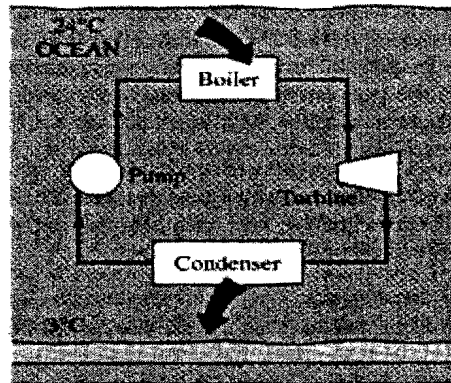

Figure 3
- (c) In tropical climates, Figure 3, the water near the surface of the ocean remains warm throughout the year as a result of solar energy absorption. In the deeper parts of the ocean, however, the water remains at a relatively low temperature since the sun's rays cannot penetrate very far. It is proposed to take advantage of this temperature difference and construct a power plant that will absorb heat from the warm water near the surface and reject the waste heat to the cold water a few hundred meters below. Determine the maximum thermal efficiency of such a plant if the water temperatures at the two respective locations are 24°C and 3°C . **[13 marks]**